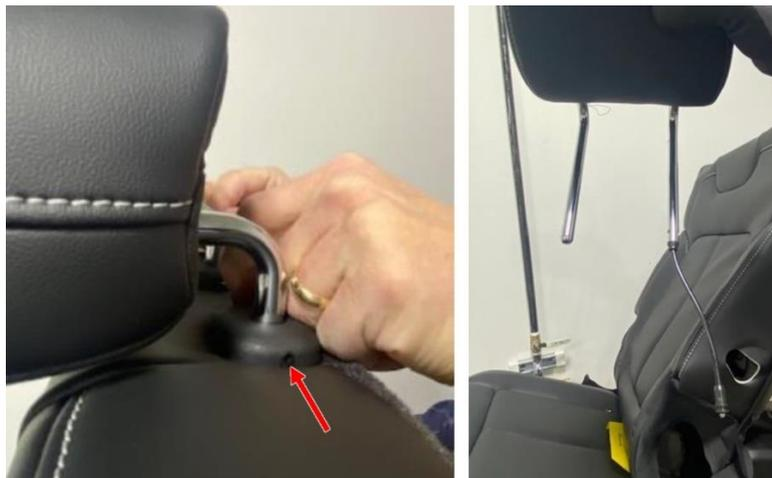

Figure 55 – Headrest
21. Using a small pick, depress the springs in the headrest sleeves on each side of the headrest while pulling upward on the headrest, and pull the headrest out of the seat (Figure 55).
58. Install the headrest into the sleeves (Figure 55).